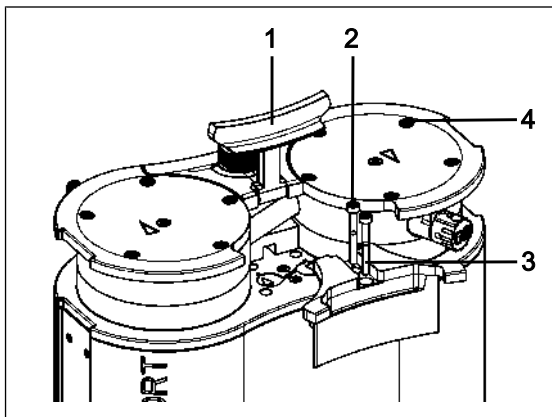

Fig.8: Dismount cover
1. Set the handle (1/Fig. 8) to a vertical position.
2. Loosen the screws (2/Fig. 8) on the cover (3/Fig. 8).
3. Remove the cover (3/Fig. 8).
4. Loosen the external head screws (4/Fig. 8).
1. Mark the pressure plate (2), head plate (3) and intermediate plate (6) with a continuous pencil stroke. This prevents the parts from being incorrectly mounted later on.
2. Loosen the external screws (4/Fig. 8) of the pump heads.
1. Move the diaphragms (7) to the center position.
2. Press on the entire perimeter of the diaphragm (7). Only press on the diaphragm (7) on one pump head.
3. Place the intermediate plate (6) with valve plates/seals (4) on the mount according to the pencil line.
4. Place the head plate (3) on the intermediate plate (6) in line with the locating pin (5).
5. Place the pressure plate (2) on the head plate according to the pencil line.
7. Tighten the screw (1) in the center of the pressure plate (tightening torque: 1 Nm).
9. Place the pump heads (consisting of head plate (3), intermediate plate (6) with valve plates/seals (4) and pressure plate (2)) together with the connection tube on the pump housing according to the pencil line.
10. Mount the handle cover (3/Fig. 8).
11. Tighten the screws (2/Fig. 8) of the handle cover (3/Fig. 8) (tightening torque: 2 Nm).